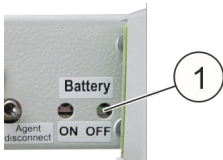

Fig. 87: Battery button
4. Actuate the battery button "Battery OFF" (Fig. 87/1).